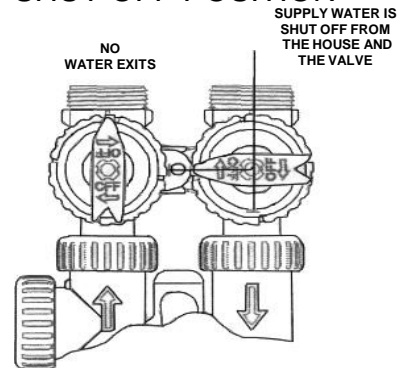

Figure 4
4. **Shut Off Position:** The inlet handle points to the center of the bypass valve and the outlet handle points away from the control valve. The water is shut off to the building. The water treatment system will depressurize upon opening a tap in the building. A negative pressure in the building combined with the softener being in regeneration could cause a siphoning of brine into the building. If water is available on the outlet side of the softener it is an indication of water bypassing the system (**Fig. 4**) (i.e. a plumbing cross-connection somewhere in the building).